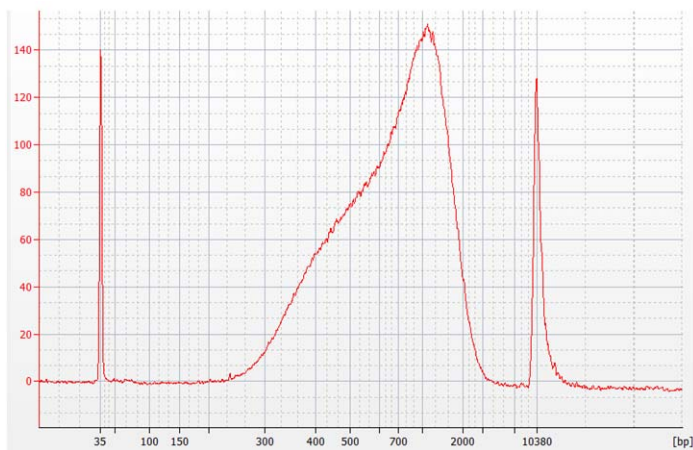

Figure 6 Analysis of amplified library DNA using a High-Sensitivity DNA Assay.
Do not use Agilent's DNA 1000 Assay to analyze the whole genome samples. The expected distribution of whole genome library fragment sizes is not compatible with the DNA 1000 Assay. See Figure 6, below, for a sample electropherogram.
- Typical whole genome library electropherograms show a broad distribution of DNA fragments. A sample electropherogram is shown in Figure 6.